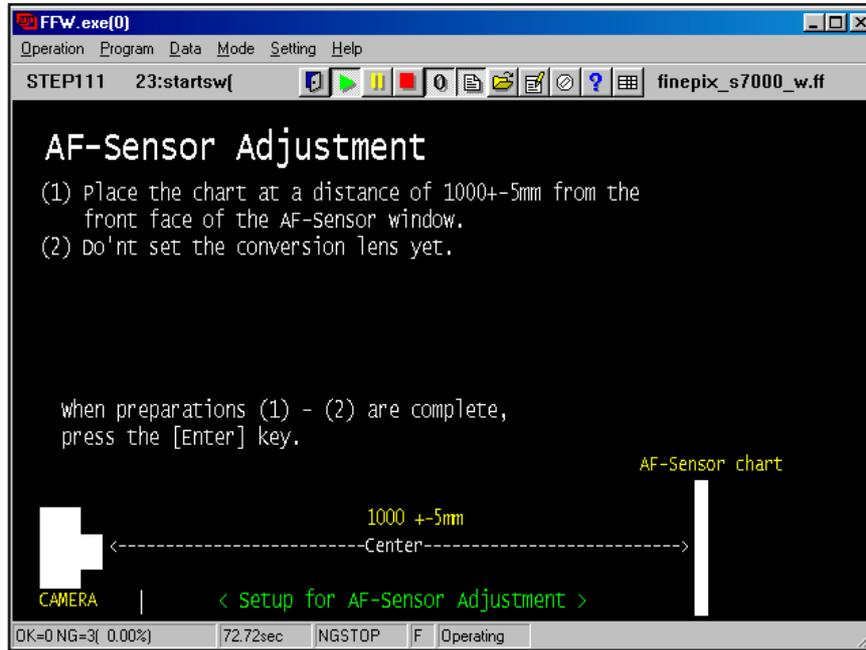

Fig.7
---> The [AF-Sensor adjustment Preparation Screen (Fig.7)] appears.